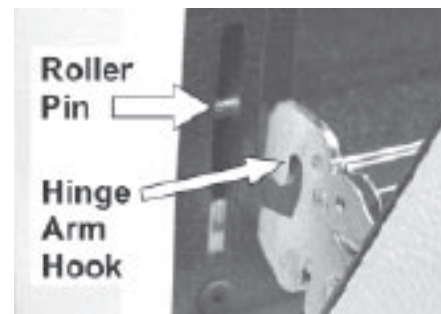

Figure 4
6. With the oven door in the broil stop position, lift the oven door hinge arms over the roller pins located on each side of the oven frame (See Figure 4).
2. Holding the oven door at the same angle as the removal position, seat the hook of the hinge arm over the roller pins located on each side of the oven door frame (See Figure 4). The hook of the hinge arms must be fully seated onto the roller pins.